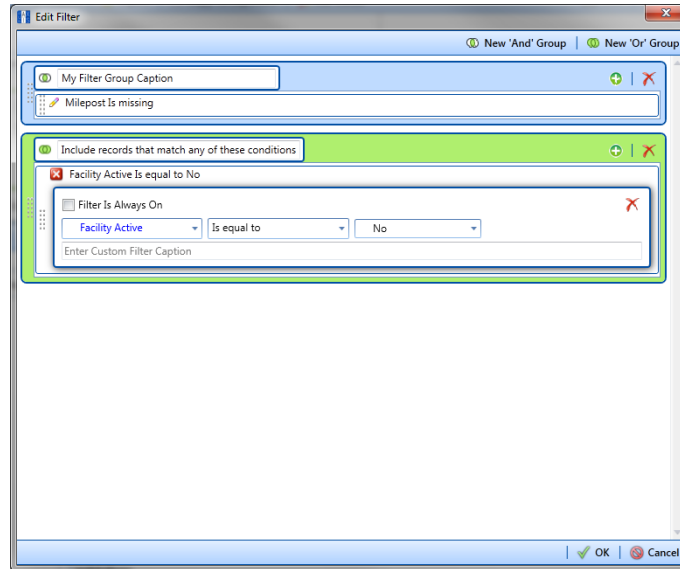

Figure 10-51. New 'Or' Filter Group
- a Click **New 'Or' Group** to open a filter properties group box (Figure 10-51).